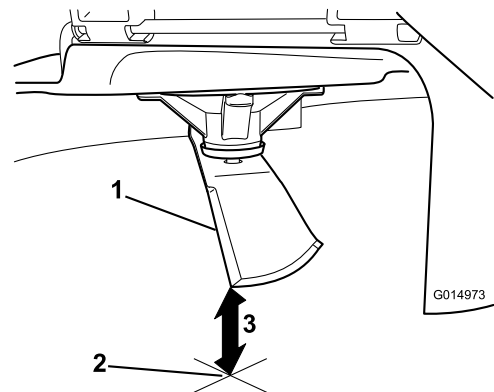

Figure 75
5. Measure from the tip of the blade to the flat surface (Figure 75).